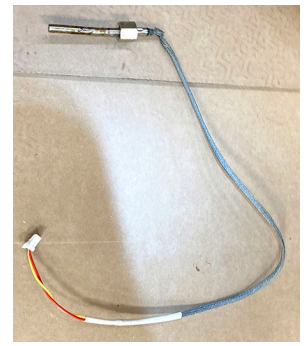

Figure 28
31. Gently pull the probe wires out of the component box and set probes aside (see Figure 28).